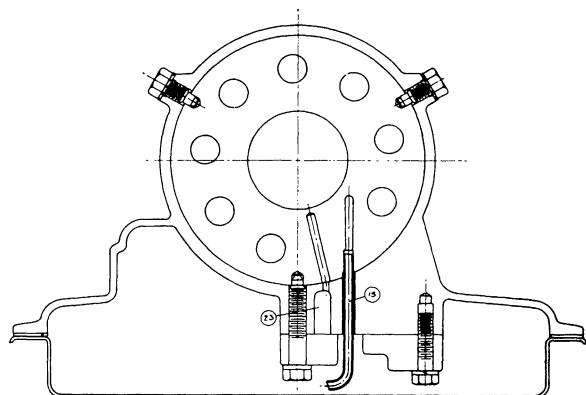
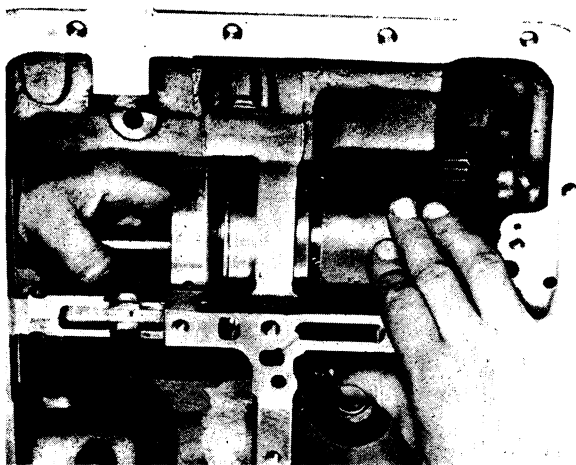

Fig. 4-84. Centre support, retention and passages
Fig. 4-85. Withdrawing centre support and planet gears
32. From the outside of the transmission case remove the two centre support screws, see Fig. 4-84. Withdraw the centre support and planet gears, see Fig. 4-85. Take out the rear brake band. Separate the centre support, one-way clutch and planet gears. Remove the snap ring and the outer race of the one-way clutch.
9. Turn the fluid passage holes in the centre support upwards and fit the assembled unit into the transmission case. (Note that the holes point downwards when the transmission is turned the right way up, see Fig. 4-84.)